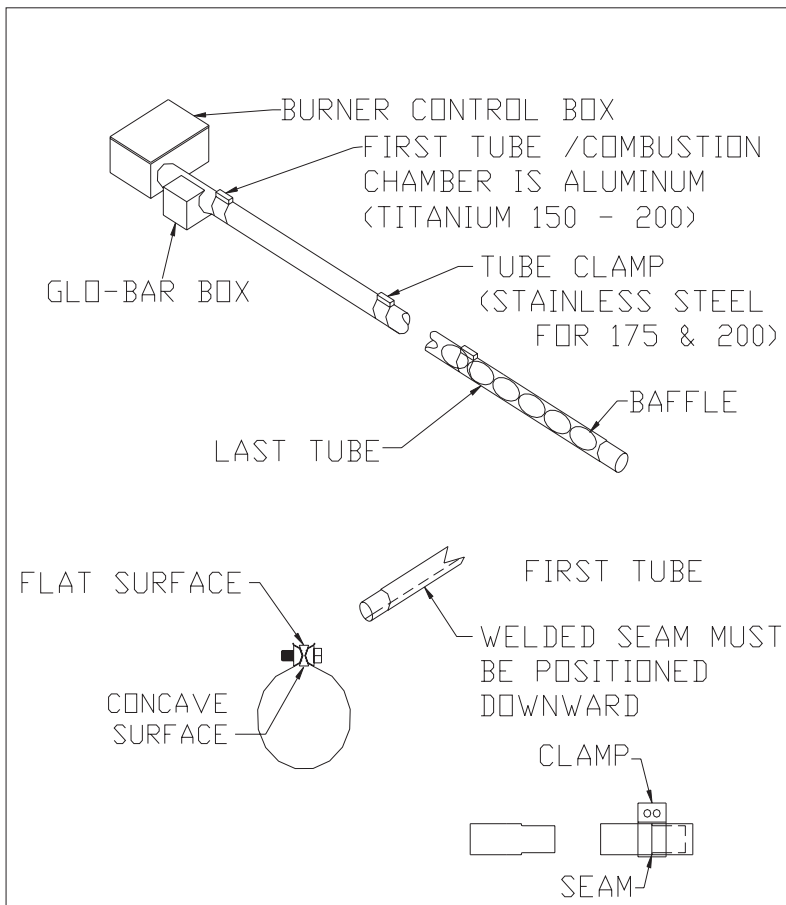

Figure 2.4.1
Models 175,000 to 225,000 BTUh use a stainless steel clamp on the second joint. Figure 2.4.1
2. Mate tubes completely then recheck suspension hanger locations and secure. Center clamp on seam and torque clamp bolts to 50 - 60 lbs. - ft. Figure 2.4.1